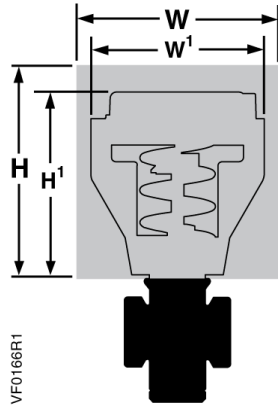

Figure 6.
- Allow sufficient space for servicing the valve and actuator. See Table 11 for valve body dimensions. See Figure 6 and
The letters in Figure 6 refer to actuator and service envelope dimensions in Table 10.